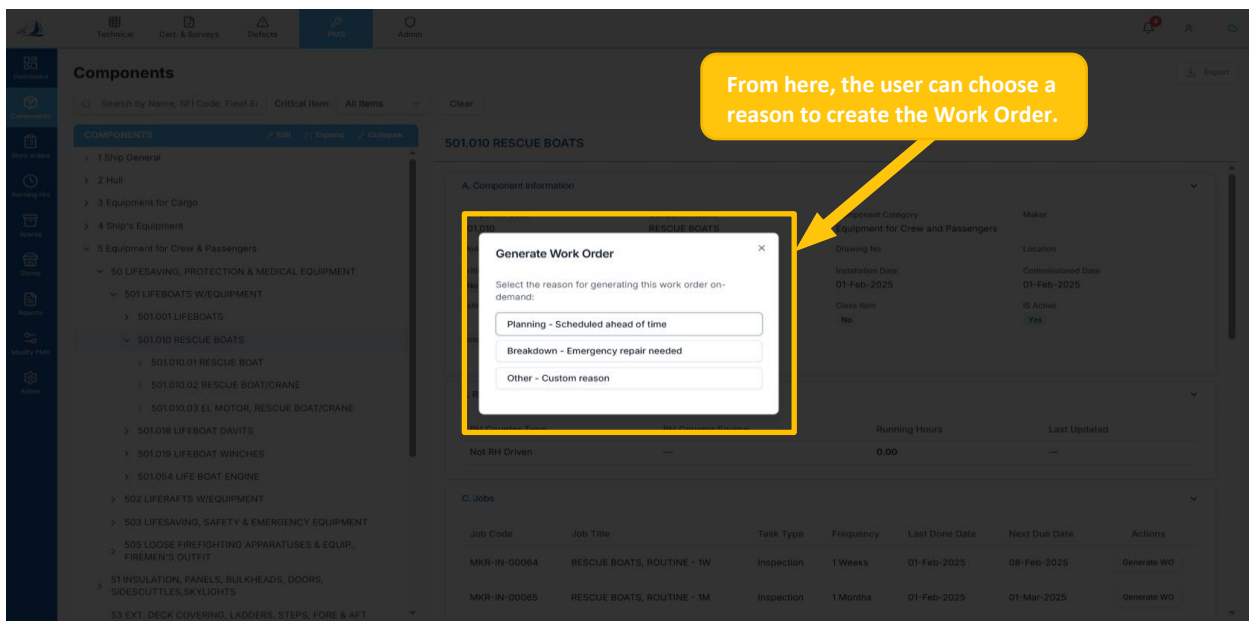

Figure 17
- The screen below appears after clicking the 'Generate WO' button. (Ref Figure 17)
- Choose the appropriate reason for generating the work order from the listed options (Ref Figure 17), and the Work Order will be generated.